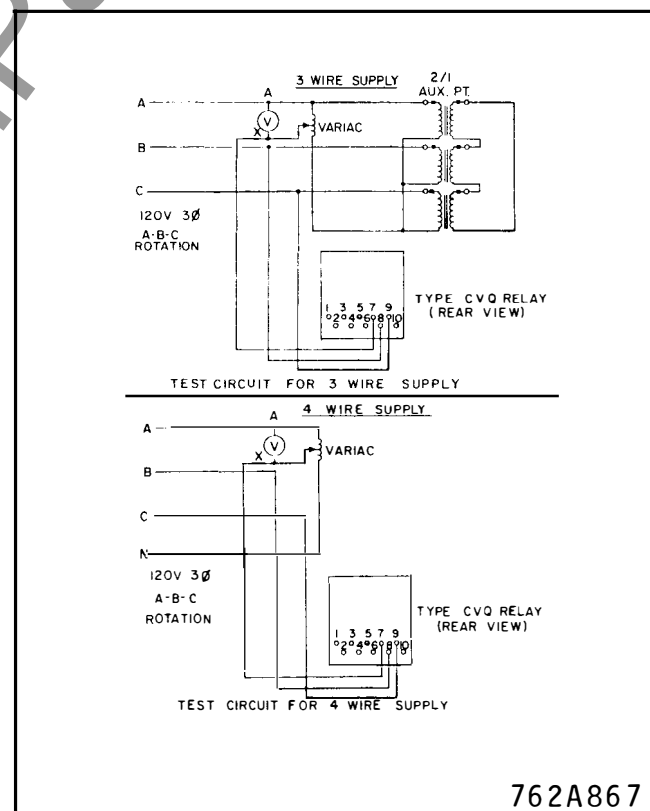

Fig. 6. Test Diagram for Type CVQ Relay.
Connect relay per test circuit Fig. 6 or 7.
2. **Minimum Trip Current** – Short out the adjustable resistor in series with the polar element. Using the test circuit of Figure 6 or 7, adjust the right hand shunt of the polar unit so that it toggles over with 3.3 volts on the voltmeter. Remove short circuit from the resistor and adjust this resistor so that the polar unit will close its contacts to the left with 10.4 volts on the voltmeter. For other sensitivities as indicated in Table A, adjust for the voltage shown. Block polar unit contacts closed to the right before proceeding with CV calibration.